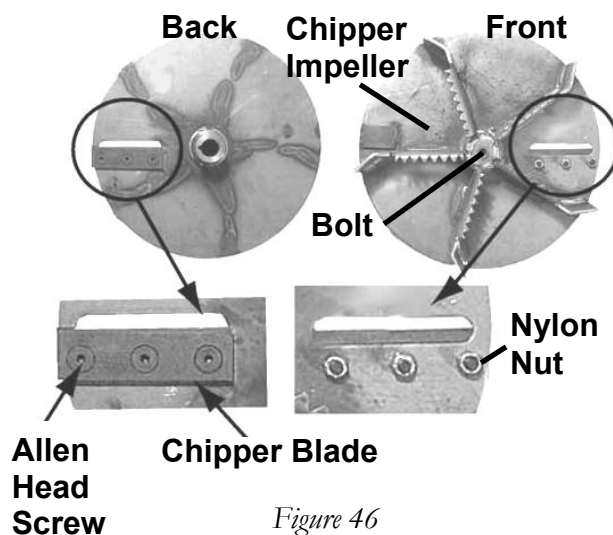

Figure 46
4. Using the 9/16" wrench or socket, remove the Chipper Impeller retaining bolt from the engine shaft and slide the impeller off of the shaft (*Figure 46*). Be sure to save the key in the slotted shaft.
5. The Chipper Blade is attached to the impeller with three (3) Allen head screws and three (3) nylon lock nuts (*Figure 46*). Using the 3/16" Allen wrench and 1/2" wrench, remove the old Chipper Blade by removing the three (3) screws and nuts.